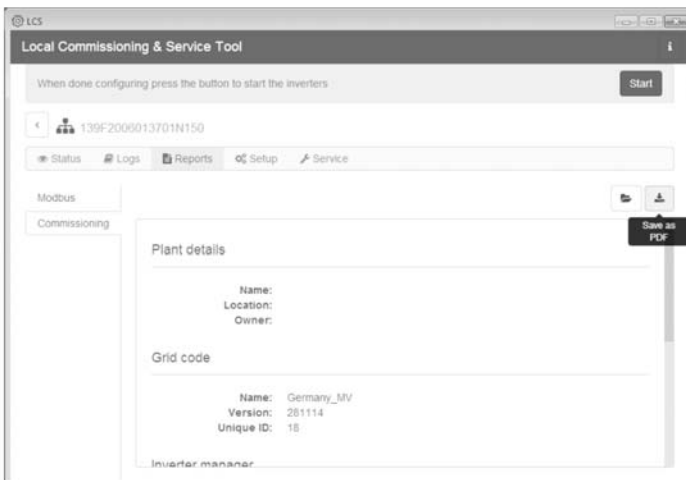

Figure 5.9 LCS tool - commissioning report
13. During commissioning it is possible to download a commissioning report in the **Reports** menu. The report contains information about inverter settings, including actual disconnection values for each inverter. See figure 5.9.